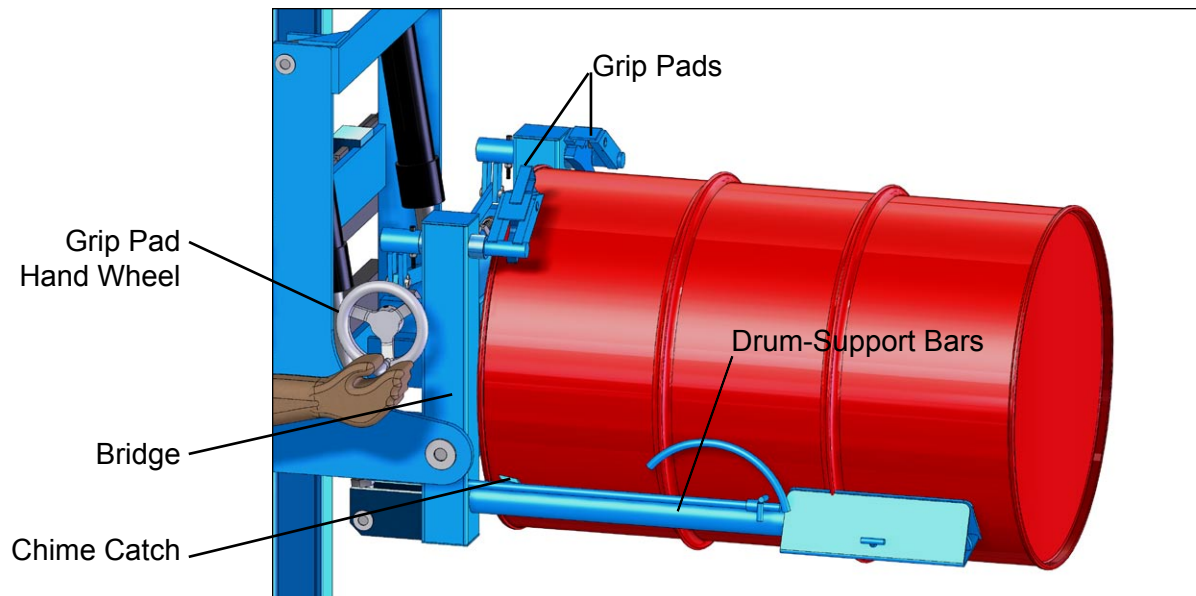

Figure 5.1
2. Move the < PILOT > forward until the "bridge" meets the head of the drum. (see Figure 5.1).